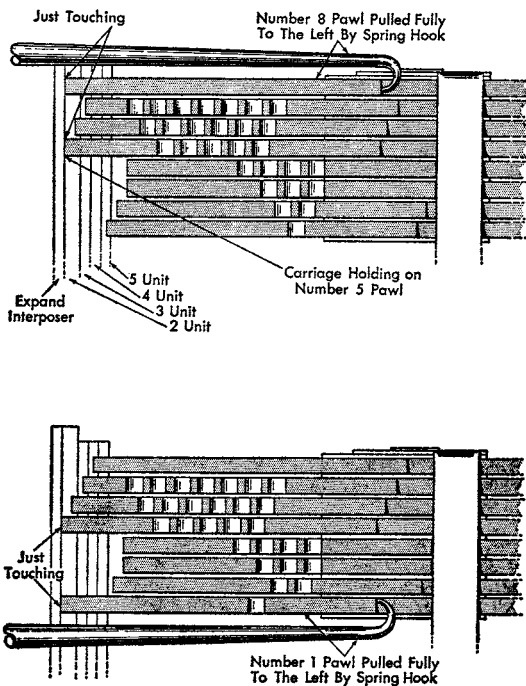

Figure 4. Interposer Verticalness
tails are visible and the carriage is holding on the 5 escapement pawl (Figure 4).
b. Move the 1 and the 8 escapement pawls fully to the left. Each escapement pawl tail should just touch the expand interposer or move it an equal amount to the left (Figure 4). Unequal movement indicates need for shifting the rear of the rail support to the right or left.